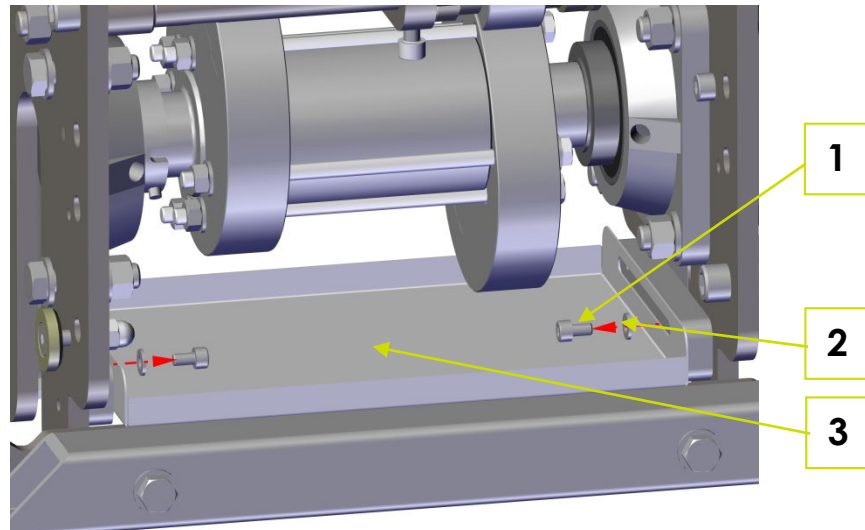

Fig. 8-1: Dismounting the contamination collection tray
1. Remove both fillister head screws M6x10 (1) and washers (2) (Fig. 8-1: Dismounting the contamination collection tray).
2. Pull out the contamination collection tray (3) laterally.